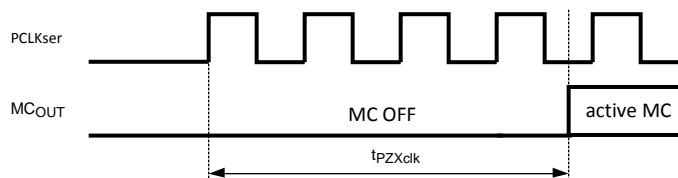

Figure 4. Stop PClock Power Up
| t PZXclk  | Enable Time - Clock Start           | PCLK to MC OUT <a href="#">Figure 4</a>                            |      | See (4) |     |             |